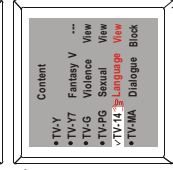

Fig.4
- 8. For example, if you only set the sub-ratings of TV-14 as Fig4, then press the Menu button to go back to the previous screen, the display will be shown as Fig.5, the sub-ratings (V, S, L) have been unblocked..